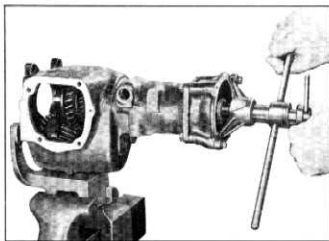

Fig. 8—Removing Mainshaft
7. While holding puller shaft handle, turn the puller handle clockwise to force the mainshaft out of the rear bearing (fig. 8). Disassemble the puller from mainshaft and the rear bearing support and remove the mainshaft from transmission through the front of the case.